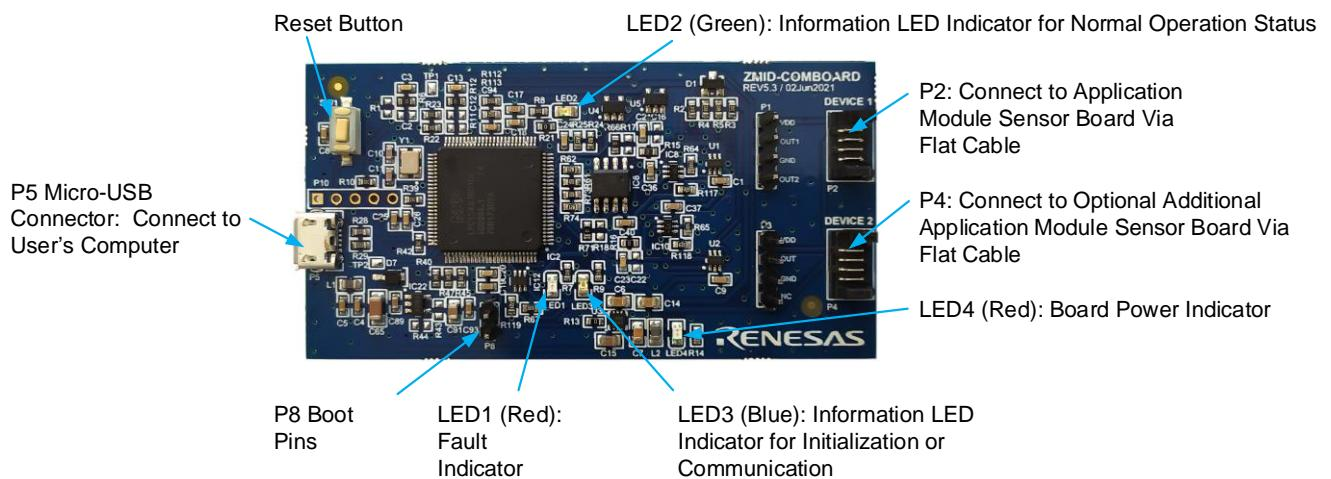

Figure 3. ZMID-COMBOARD – Overview
Note: See Figure 3 for the components referenced in this table.
5. The indicator LED2 on the ZMID-COMBOARD will light (see Figure 3) if conditions are normal. This indicates that the board is ready to communicate with the *ZMID4200 EVKIT Application Software*. The D1 LED on the ZMID4200 Application Module (see Figure 4, Figure 5, or Figure 6) also lights when the board is powered on.